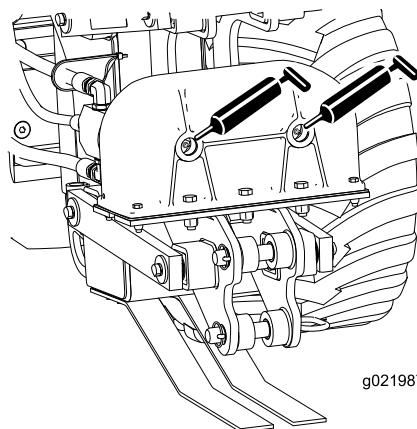
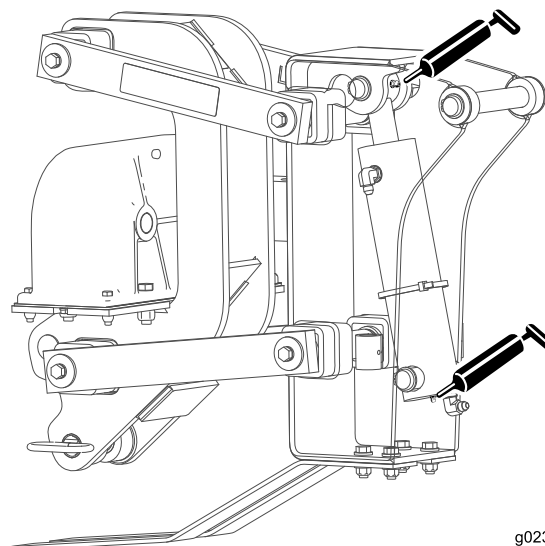

Figure 25
Figure 26
2. Connect a grease gun to each fitting (Figure 25, Figure 26, and Figure 27).